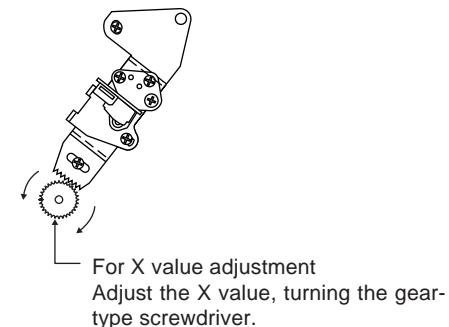

Figure 4-33.
Playback the alignment tape (Use VROUBZFS for VC-A230NZ/X,A280NZ/X) and shortcircuit TP802. As a result the auto-tracking is automatically cancelled, so that the X value adjustment mode is set. Move the A/C head with the X value adjustment gear driver (JiGDRiVER-6) by the method shown in Figure 4-33, and adjust the A/C head so as to get the maximum envelope waveform. (Note: When the A/C head is adjusted, adjust so that the maximum envelop waveform is obtained nearest the position of initial setting made in Page 18.)
driver by the method shown in Figure 4-33, and adjust the A/C head so as to get the maximum envelope waveform. (Note: At this time adjust so as to get the maximum envelope waveform nearest the A/C head position which has been set in case of X value rough adjustment as stated in Page 20, 3- ②.)
- ④ Tighten finally the screws ① and ②. Be sure to tighten at first the screw ① and then the screw ②. Final tightening torque is 0.6N·m (If the screw ② is tightened first, the X value may deviate.)
- ⑤ Adjust the playback switching point (Refer to the electric adjustment method.)
- ⑥ Playback the self-picture-recorded tape, and check the flatness of envelope waveform and sound.